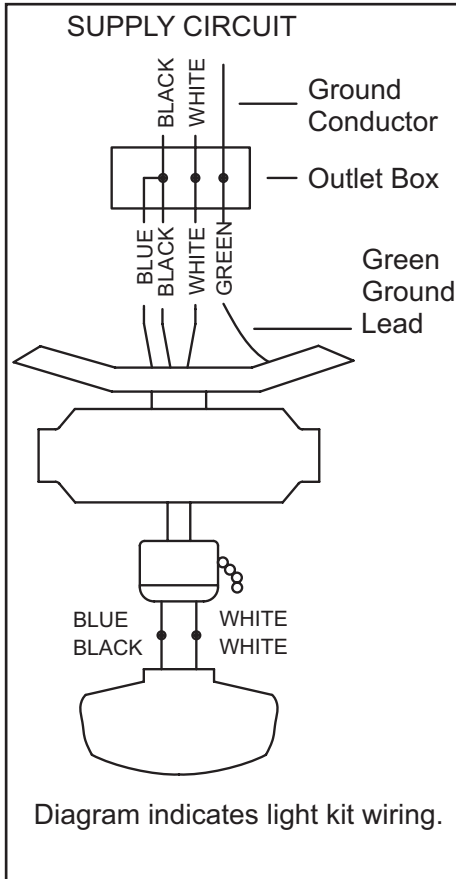

Figure 6
2. Carefully lift the motor assembly (without the blades) and insert the T section of the motor housing plate into the slot in the mounting bracket as shown in Figure 6.
1. Connect the ground conductor of the 120v supply (this may be a bare wire or a wire with green colored insulation) to the green ground leads from the motor bracket and the mounting plate of the fan (Figure 6).
2. Connect the fan motor white wire to the supply white (neutral) wire using a wire nut supplied (Figure 6).
3. Connect the fan motor black and blue wires to the supply black (hot) wire using a wire nut supplied (Figure 6).